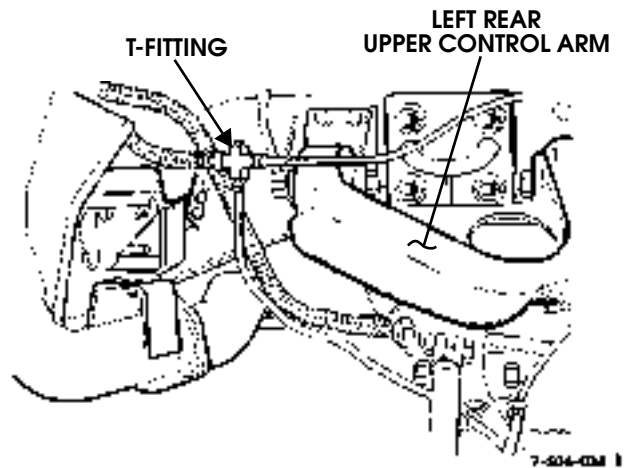

Figure 6-71: T-Fitting Location
1. Disconnect line at rear wheel and at T-fitting (Figure 6-71).